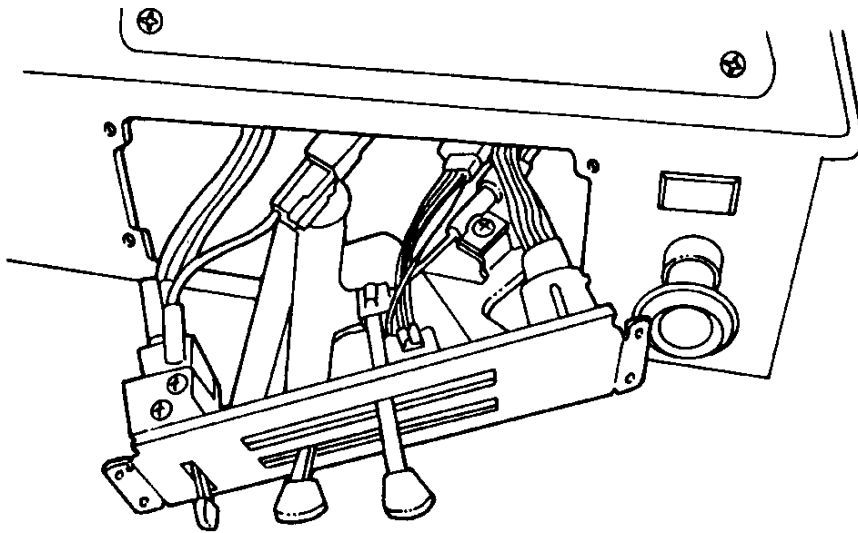

Figure 48 Cab Control Assembly Remove/Install
3. Carefully slide control assembly out of dash (Figure 48).
3. Slide control assembly into position in dash (Figure 48).
6. Carefully slide control assembly out of dash (Figure 48).